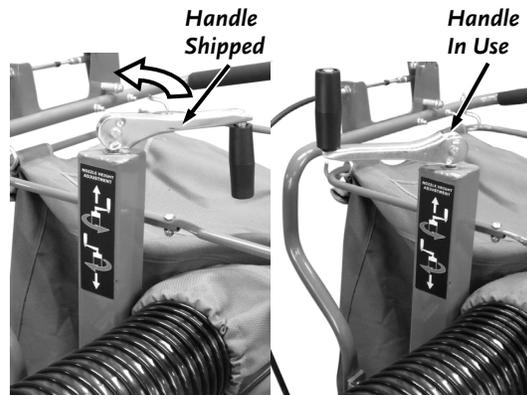

Figure 11
10. Flip the Height Adjust Handle from the “Shipped” Position to the “In Use” position (**Figure 11**).